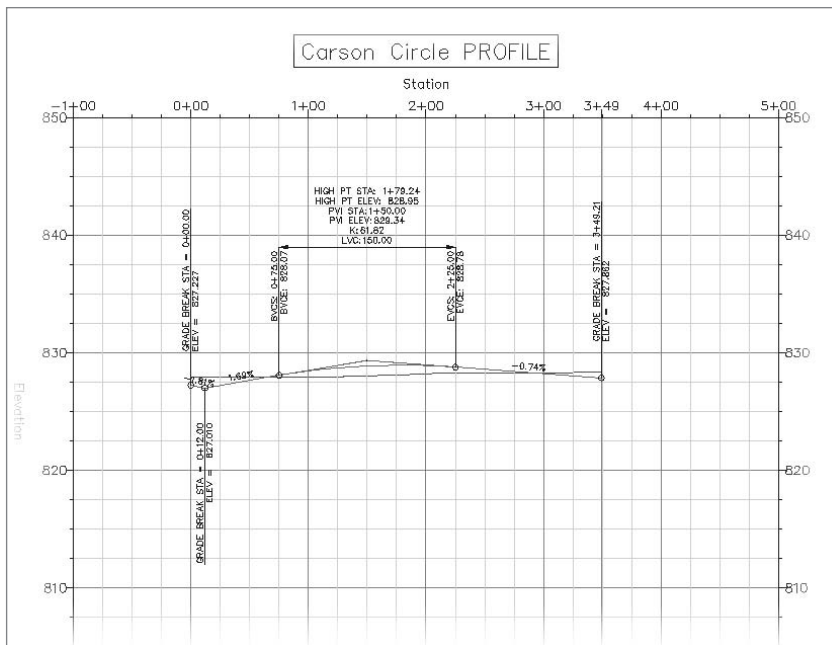

Figure 9.23
12. Right-click and select Flip Label from the shortcut menu. Your screen should now look like Figure 9.23.